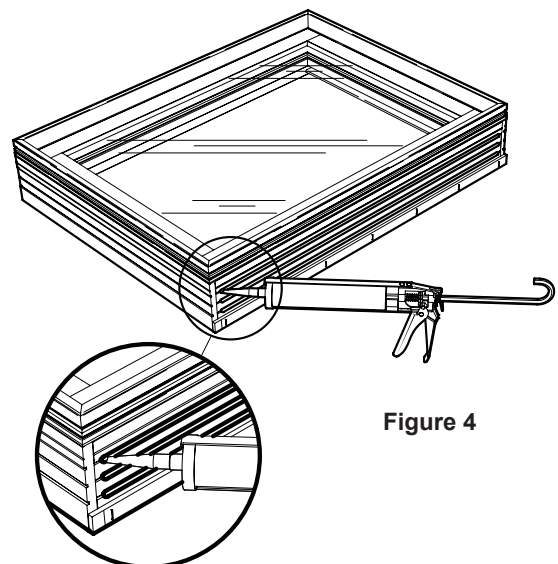

Figure 4
4. Apply a 1/4" bead of silicone full length of the jamb into each groove. (Figure 4)